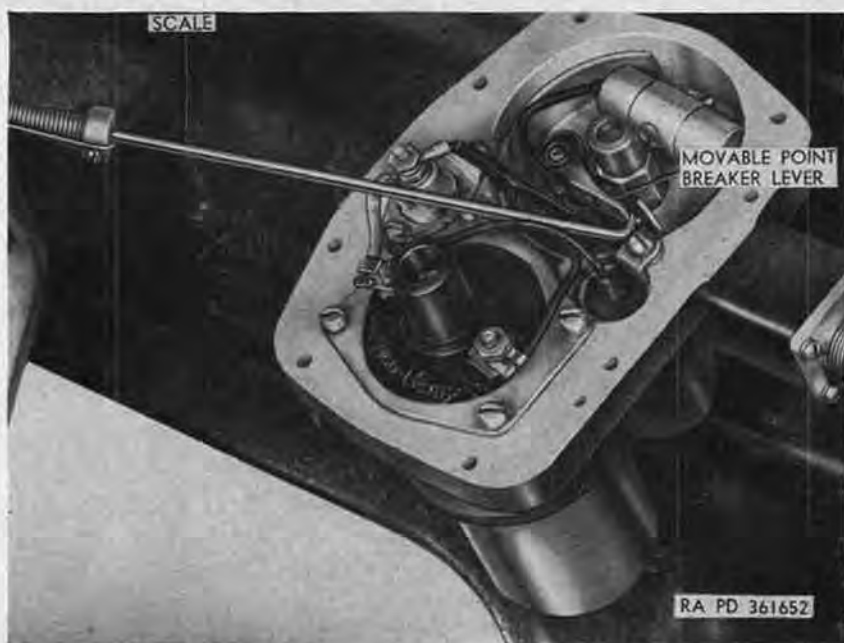

Figure 177. Checking distributor breaker lever spring tension.
- (b) *Test breaker lever spring tension.* With cover and rotor removed, hook spring scale (fig. 177) at end of breaker lever as close as possible to contact point, and pull breaker lever away from cam, noting pull on scale required to separate contact points. It is important that pull on scale required to open points be from 17 to 21 ounces. If scale reading indicates improper breaker lever spring tension, replace distributor point set ((3) and (4) below). If scale indicates